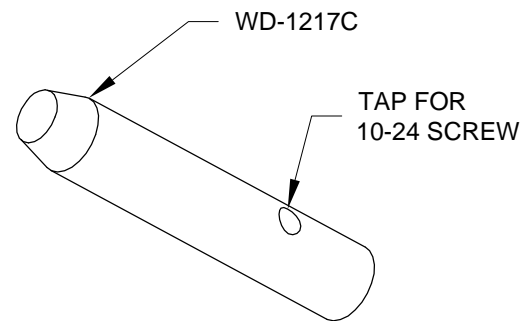

FIGURE 1: FUSELAGE PIN STOPPER ASSEMBLY
Change Figure 1 to remove illustration of ES RS 49496
Step 1: Tap the hole in each of the WD-1217C Fuselage Pin Stoppers as shown in Figure 1.